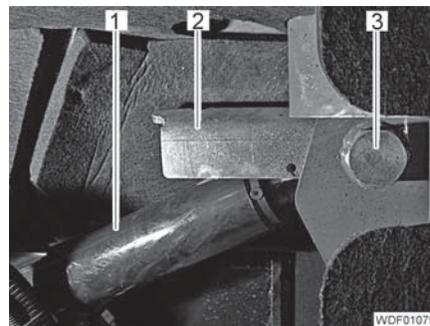

Fig. 341 Hydraulic cylinder attachment
- Unscrew the screw (Fig. 341,3).